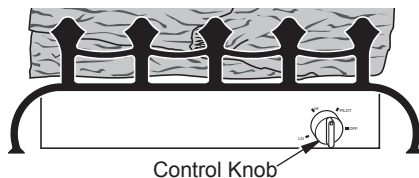

Figure 25 - Control Knob and Ignitor Button Location
4. Wait five (5) minutes to clear out any gas. Then smell for gas, including near the floor. If you smell gas, STOP! Follow "B" in the safety information on page 18. If you don't smell gas, go to the next step.
5. Press in control knob and turn counterclockwise to the PILOT position (see Figure 25). The ignitor will spark once. Keep control knob pressed in for 5 seconds. If control knob does not pop up when released, contact a qualified service person or gas supplier for repairs.